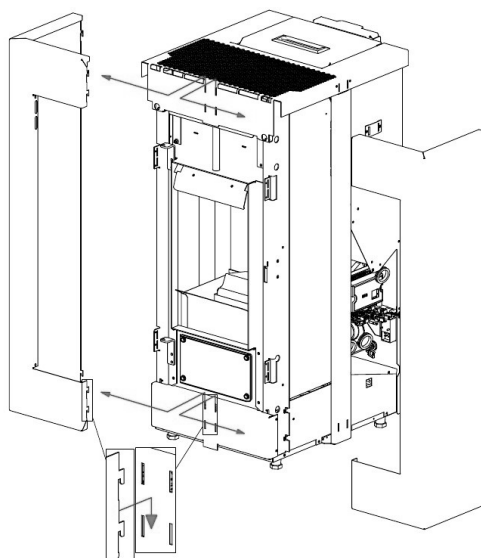

Fig. 54 - Unhook the side panels
- Unhook the side panels (see **Fig. 54**).